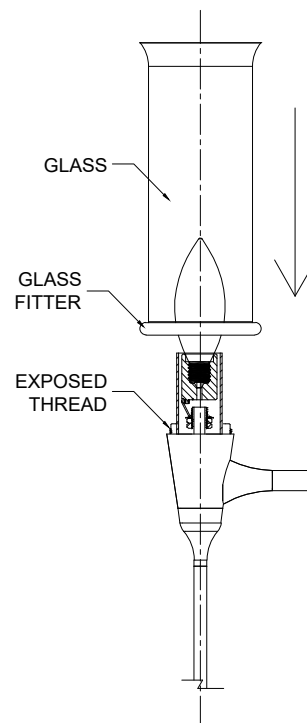

FIGURE-04
10. Install the glass onto the fixture by carefully threading the glass fitter to the exposed as seen in the figure. (See FIGURE-04)